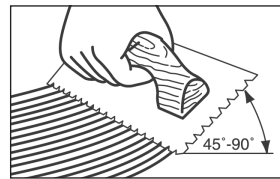

Figure 9
- Hold trowel at a minimum 45° angle (Figure 9) firmly against the subfloor to obtain a 40-60 ft. 2 (4-5.5 m2) per gallon spread rate (30-35 ft. 2 per gallon for Bruce Summit spread with the included Summit All-In-One trowel). The trowel will leave ridges of adhesive and very little adhesive between the ridges. This method will allow you to still see the chalk lines between the ridges and provide the recommended spread rate.